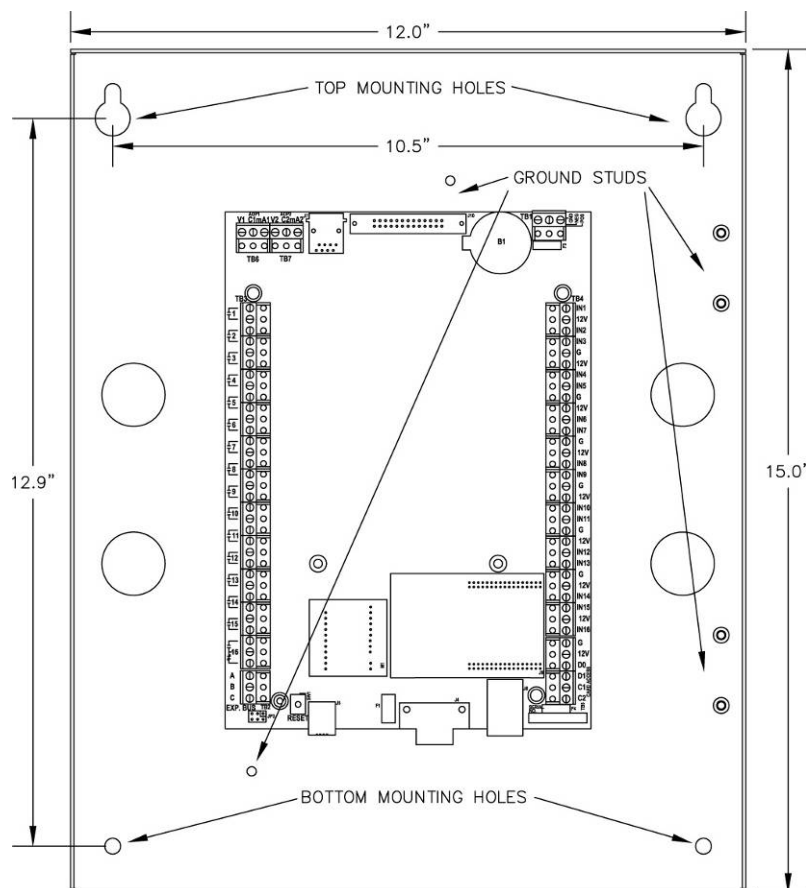

Figure 1: Location of Mounting Holes and Grounding Studs
Step 2: Slip the TELSEC[®] ESB top mounting holes (Figure 1) onto the top mounting hardware and slide down until it stops. Install the bottom mounting hardware in the bottom mounting holes.
Step 1: Using terminal lug, run 12 AWG (or larger) ground wire from the TELSEC[®] ESB ground stud (Figure 1) to the building ground and connect using appropriate hardware. Select the most convenient ground stud; all grounding studs and ground bus are common.